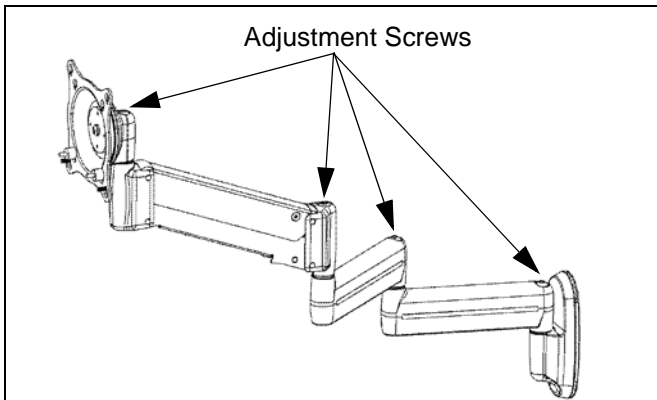

Figure 23: Pivot / Swing Arm Adjustment
1. Using 3/16" hex key, slightly loosen or tighten the adjustment screw(s) as necessary (See Figure 23).